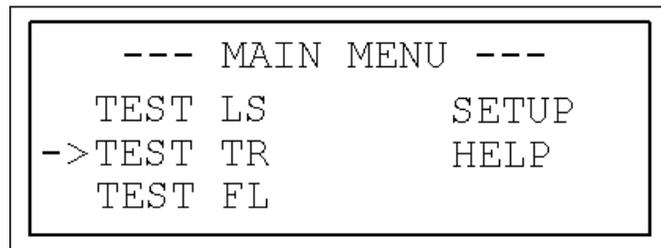

Figure 12. Main Menu with TEST TR selected.
8. If you have set `SAVE DATA` to `YES` in the Setup parameters, you will see the following "ENTER DEVICE ID" screen as shown in Figure 12. You must enter a valid device ID. The ID may be any combination of numbers or letters. The minimum length is 1 character and the maximum length is 16 characters. Press the `CHANGE` button to change the character indicated by the flashing cursor. Press the `NEXT` button to move the cursor to the next character. Press `ENTER` when complete.